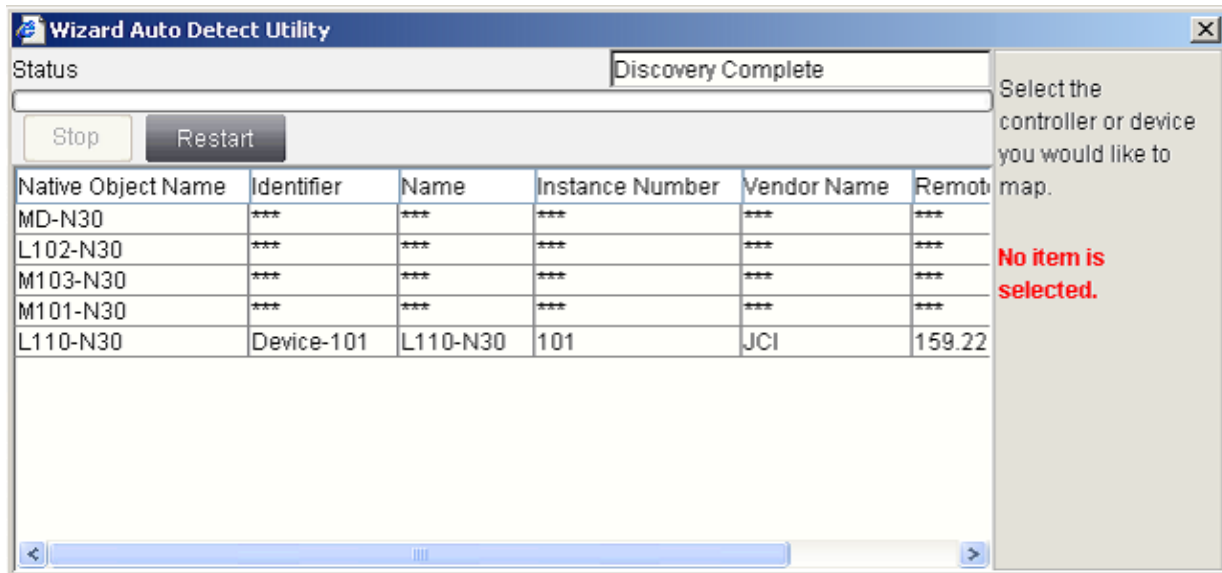

Figure 15: Wizard Auto Detect Utility
- When the N30 is found, the Wizard Auto Detect Utility screen appears (Figure 15). The first four items are on the network and already installed. The last row L110-N30 Device-101 is installed in this example. Write down the Instance Number for future use. Add the Instance Number to the name as shown.